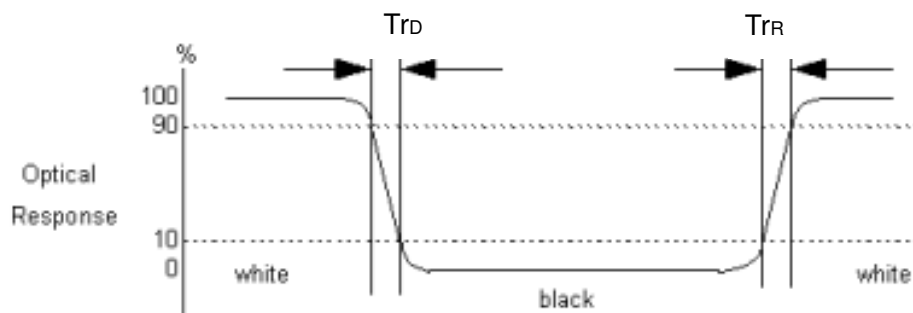

Fig.4-3 Response time
4. Response time is the time required for the display to transition from white(L255) to black(L0) (Decay Time, $T_r=Tr_D$), and from black(L0) to white(L255) (Rise Time, $T_r=Tr_R$). For additional information see Fig. 4-3.